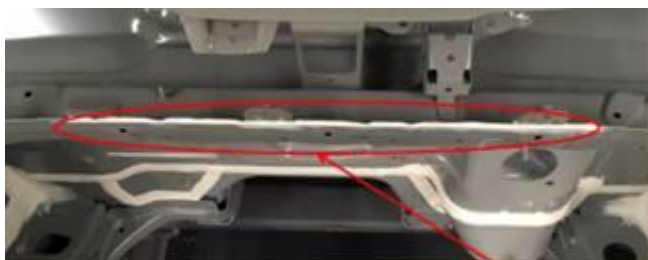

Figure 7. Sealant applied.
8. To the area shown in Figure 7 apply 1k adhesive sealant D 511 500 A2 or either of the following alternative products: